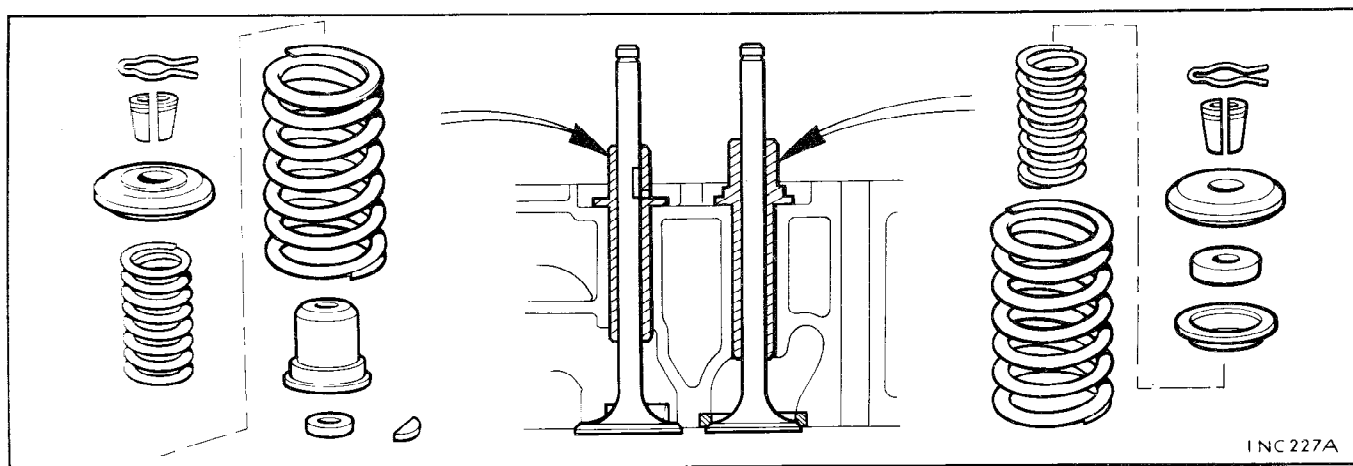

Fig. 1
9. Renew the valve stem oil seals, align the flat in the inlet valve stem with the slot in the guide, fit the key, then assemble the valve components to the cylinder head as shown in Fig. 1.